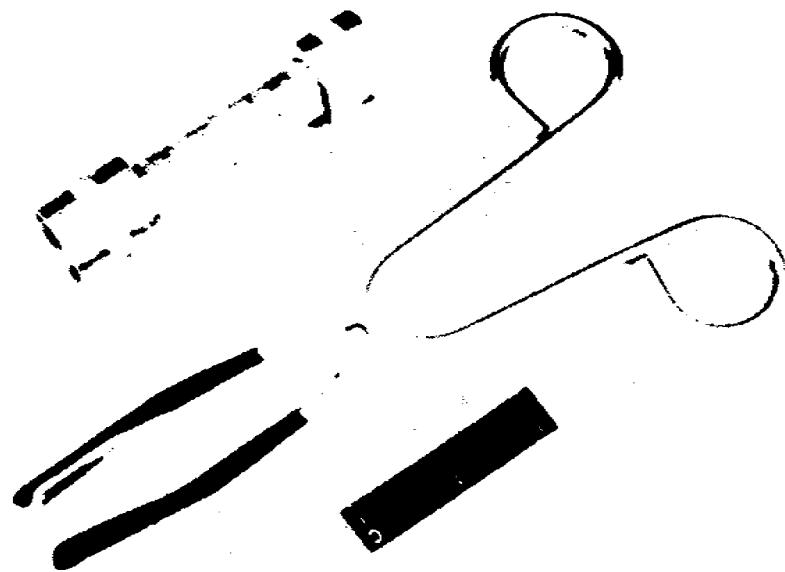

Figure 12. Special-purpose tools: tube extractor and pin straightener.
e. Special-Purpose Tools (fig. 12). The forceps-like or pliers-like tool shown here is a tube extractor. The item that looks like a short section of pipe is really a pin straightener.